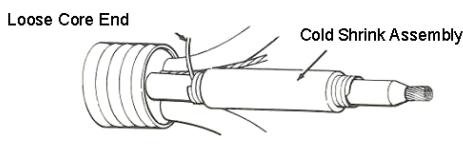

Figure 1
1. Slide cold shrink insulator assemblies onto Cable "A" power conductors, placing loose core end on first. (Figure 1)